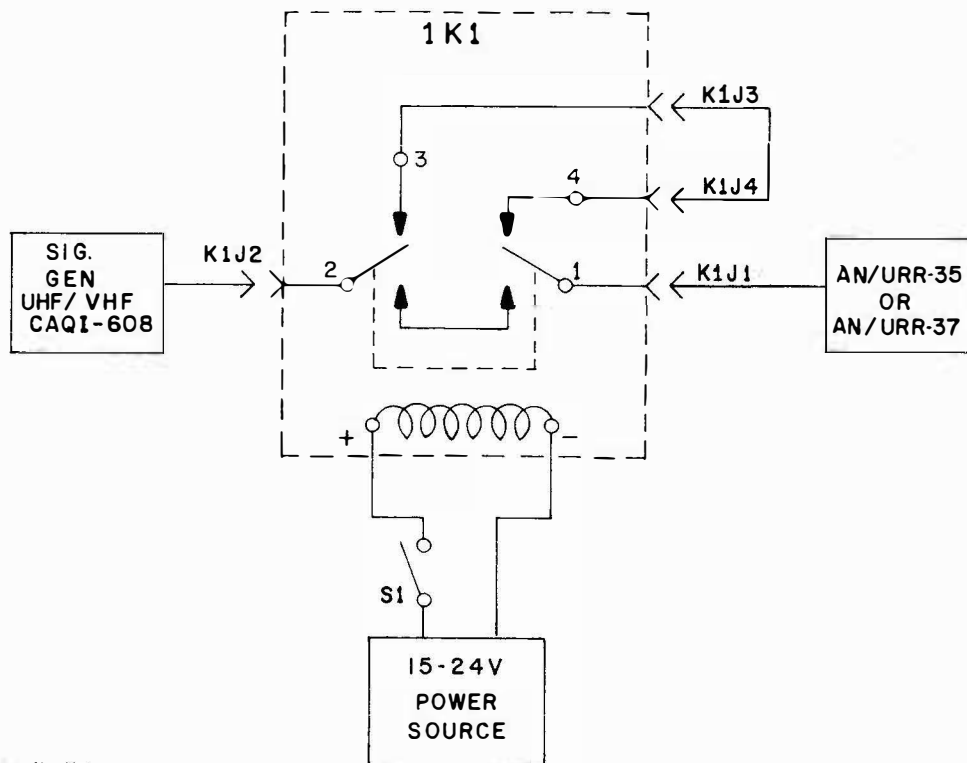

Figure 1. RF Transmission Line Switch, Test Setup.
1. Set-up equipment as shown in Figure 1.